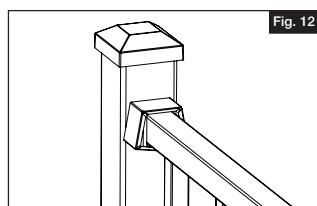

Fig. 12
- a. Move the bottom of the cover away from the bracket approximately 1 in (25 mm). There are two different clips on the bottom side of the holder, a solid strip (left side) and a three-finger strip (right side). Wrap the cover around the crosspiece as close to the post as possible (Fig. 12).